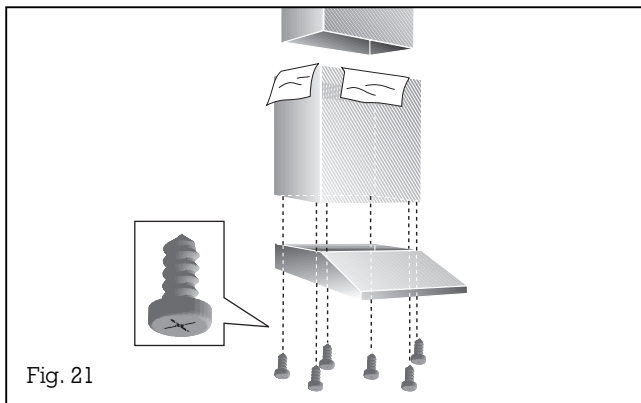

Fig. 21
- Join the chimney shoe with the chimney base using the 6 screws (3.5 x 9.5 mm) (Fig. 21).